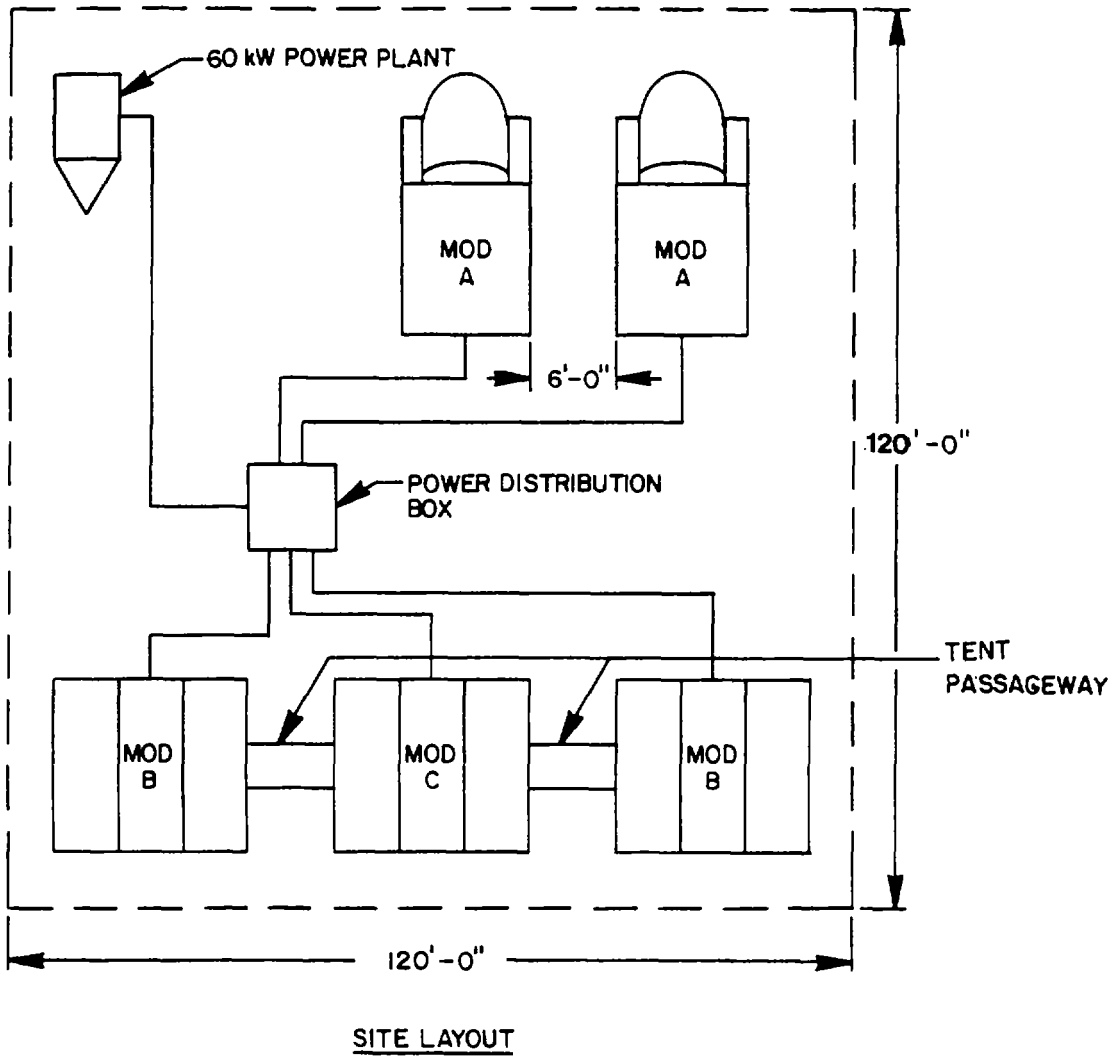

Figure 2-12. Site Layout
a. Site Selection. Refer to Figure 2-12 for a typical setup of the MPS system. The site selected should be as follows:
- (1) Terrain slope can be no more than 8 inches over the 120 foot depth or width of the site.
- (2) Module B and C unexpanded shelters must be positioned no less than 232 inches apart and no more than 241 inches apart.
- (3) Module B and C expanded shelters must be no less than 66 inches apart and no more than 75 inches apart.
- (4) Site should allow for a reasonable maneuvering area around the equipment.
- (5) Terrain should be firm, reasonably level, well drained and relatively free of large surface rocks.